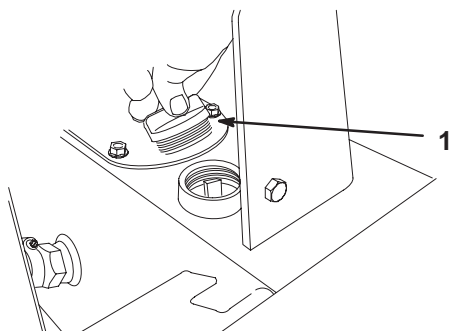

Figure 62
5. Remove the hydraulic tank cap and dipstick (Fig. 62 and 63).